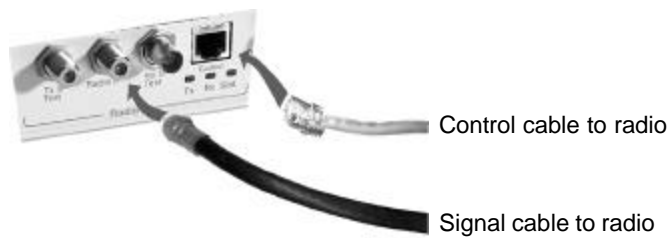
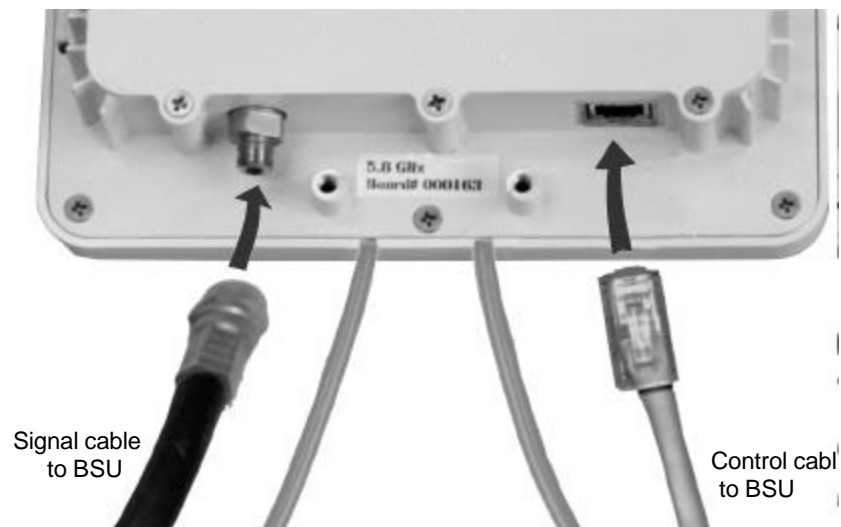

Figure5-3 **BSU Radio Connections**
Figure 5-4 Radio Signal and Control Connections
There are two cables that connect each radio to its Base Station Unit: a radio signal cable (which also carries dc power) and a control cable. These cables run from outdoor radios to the indoor BSU, so a suitable cable run and building entry point must be identified, as discussed in Chapter 3. Connections to the BSU are illustrated in *Figure5-3*; Connections to the radio are illustrated in *Figure5-4*.
3. Attach the cable to the female F connector on the radio, as shown in *Figure 5-4*.
6. Attach the cable to the **Radio IF** connector for the appropriate **Radio** port on the Base Station Unit, as shown in *Figure 5-3*.
4. Plug the cable into the RJ45 socket on the radio, as illustrated in *Figure5-4*.
8. Plug the cable into the **Control** connector for the appropriate **Radio** port on the Base Station Unit, as shown in *Figure 5-3*.
2. Connect the short coaxial cable to the **RADIO IF** connector on the Base Station Unit as illustrated in *Figure 5-4*.